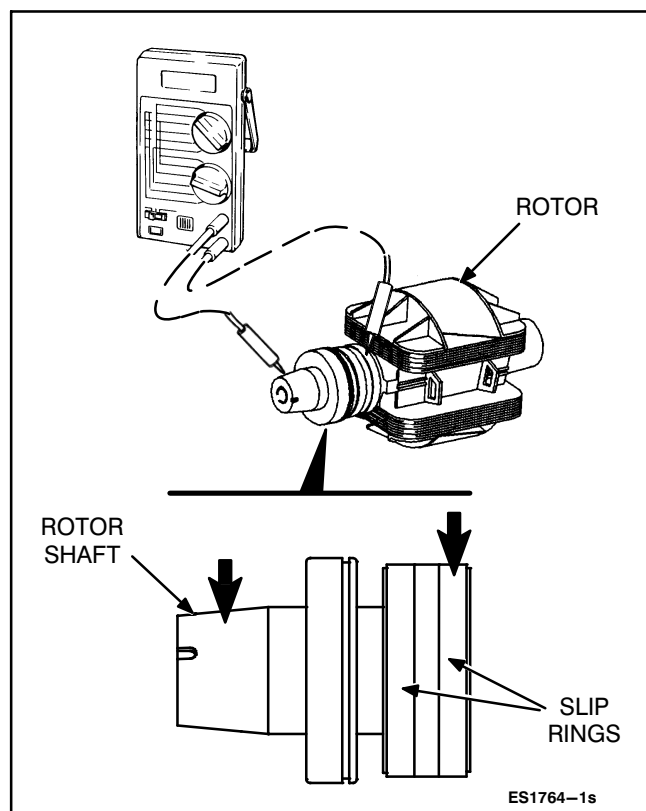

FIGURE 9-7. GROUNDED ROTOR TEST
The rotor can be tested for grounded, open, or shorted windings using an ohmmeter. Figure 9-7,
**Ground Test:** Set the ohmmeter to the highest resistance scale or use a megger. Touch one test prod to the rotor shaft and hold it there. Touch the other test prod to one of the slip rings as shown in Figure 9-7 on Page 9-9. A reading of infinity should be measured. A reading of less than one megohm (one million ohms) indicates the rotor is grounded. Replace a grounded rotor with a new rotor.